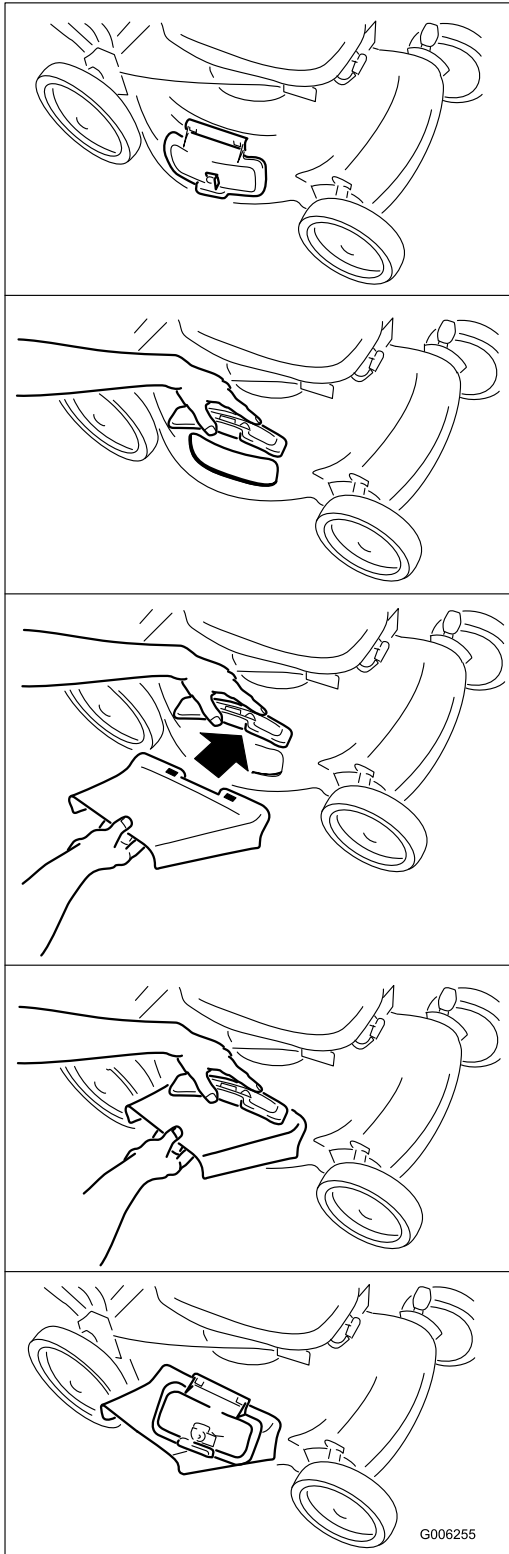

Figure 18
2. Install the side discharge chute (Figure 18).